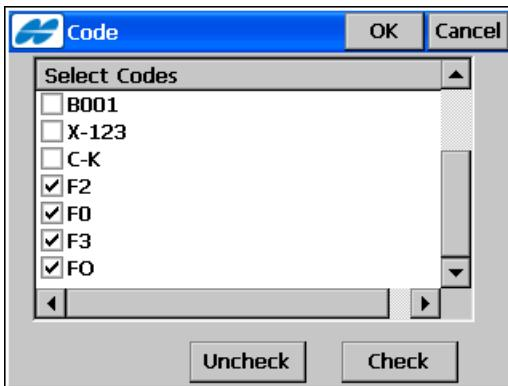

Figure 5-6. Code
- **Select** – opens the **Code** screen (see Figure 5-6 on page 5-7) for code selection.
The **Code** screen contains a list of available codes. All points with codes selected here are imported (Figure 5-6 on page 5-7).